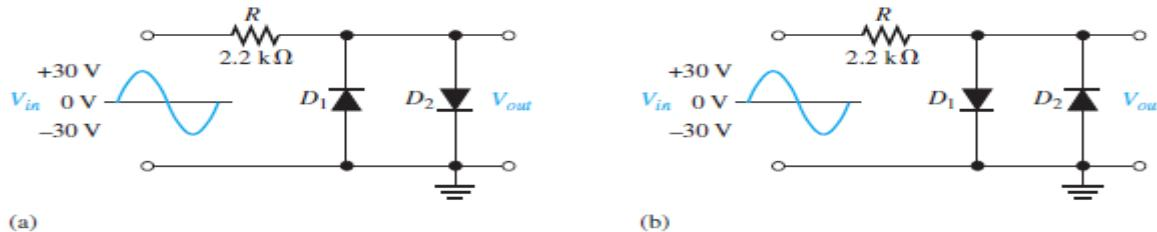

Figure 2–96
37. Determine the peak forward current through each diode in Figure 2–97.